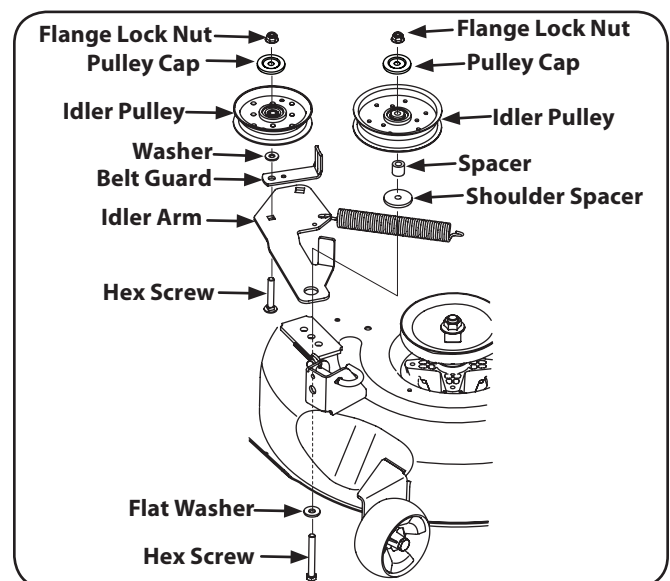

Figure 7-11
3. Remove the two idler pulleys by removing the hex screws and flange lock nuts that secure them to the deck and the idler arm. See Figure 7-11. Do not lose any of the hardware when removing the hex screw and flange lock nut.
6. Place the belt around the idler pulleys removed in step 3 with the "V" side facing in. Once in place, reinstall all the hardware and tighten the flange lock nut to secure the assembly. See Figure 7-11.
7. Route the belt as shown in Figure 7-11 and then reinstall the deck (refer to Deck Installation on page 30).